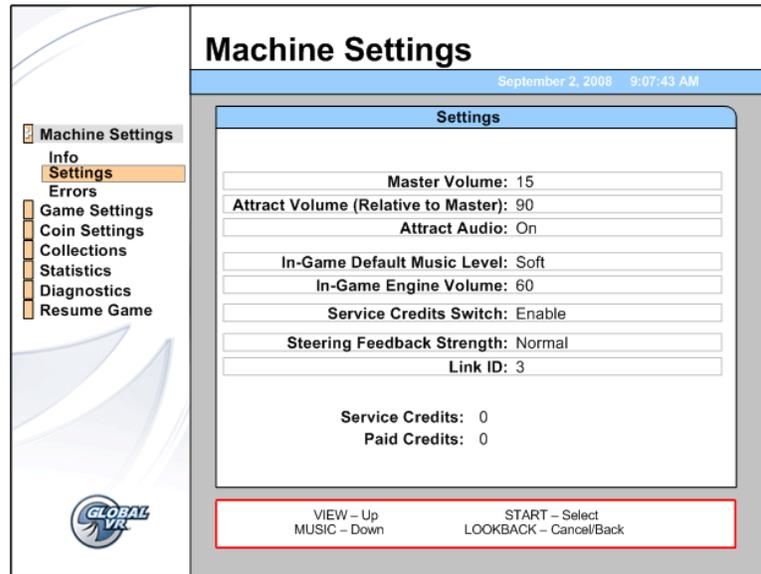

Figure 9. Machine Settings Menu
6. Some menu items, such as volume levels (see Figure 9 on page 17) use sliders to set numeric values. A slider, as shown below, will appear when you highlight the item and press **START**. To set the slider, press the **VIEW** and **↵** buttons to increase or decrease the value, and then press **START** again to save the selected value.